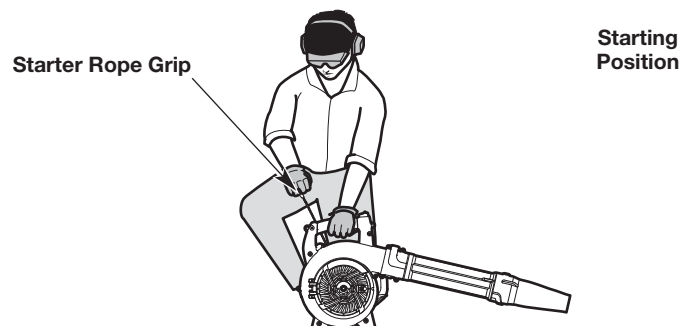

Fig. 7
**WARNING:** Avoid accidentally starting the unit. To avoid serious injury, the operator and the unit must be in a stable position when pulling the starter rope (Fig. 7).
5. **DO NOT** squeeze the throttle control. Crouch in the starting position (Fig. 7).
6. **DO NOT** squeeze the throttle control. Pull the starter rope with a controlled and steady motion 3 to 5 times to start the engine (Fig. 7).